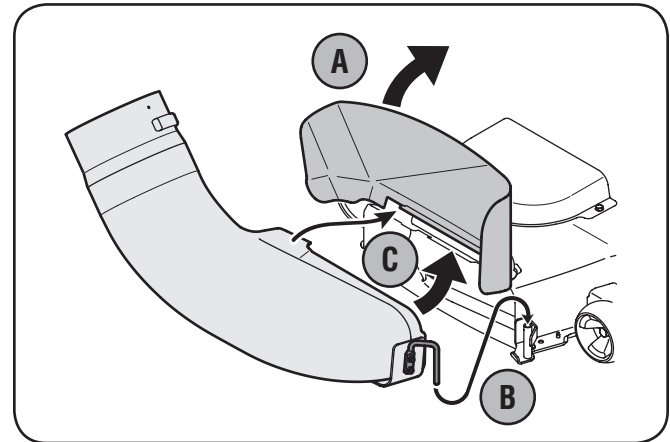

Figure 4-21
3. Raise the chute deflector (A in Fig. 4-21) on the deck and hold it while you position the discharge chute over the chute opening.
4. Insert the hinge pin of the discharge chute into the tube on the chute stop bracket. See B in Fig. 4-21.
5. Rotate the chute around the deck so that its front edge fits snugly into the deck opening. Lower the chute deflector slowly (C in Fig. 4-21).